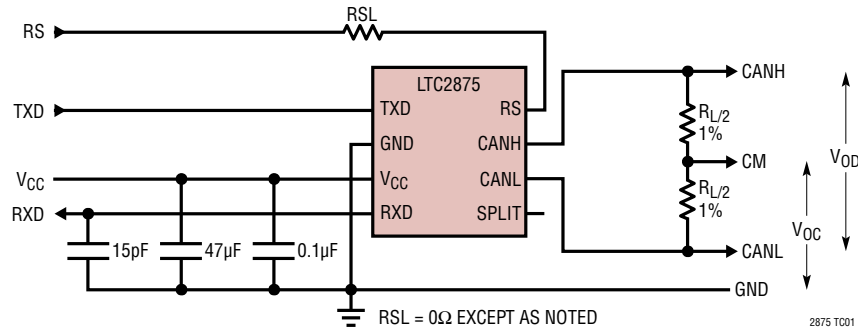

Figure 1. All Electrical Characteristic Measurements
The ● denotes the specifications which apply over the full operating temperature range, otherwise specifications are at  $T_A = 25^\circ\text{C}$ .  $V_{CC} = 3.3\text{V}$  or  $5\text{V}$ , Figure 1 applies with  $R_L = 60\Omega$ ,  $R_S = 0\text{V}$ , TYP values at  $V_{CC} = 5\text{V}$  unless otherwise noted. (Note 2)
**ELECTRICAL CHARACTERISTICS** The ● denotes the specifications which apply over the full operating temperature range, otherwise specifications are at  $T_A = 25^\circ\text{C}$ .  $V_{CC} = 3.3\text{V}$  or  $5\text{V}$ , Figure 1 applies with  $R_L = 60\Omega$ ,  $R_S = 0\text{V}$ , TYP values at  $V_{CC} = 5\text{V}$  unless otherwise noted. (Note 2)
**SWITCHING CHARACTERISTICS** The ● denotes the specifications which apply over the full operating temperature range, otherwise specifications are at  $T_A = 25^\circ\text{C}$ .  $V_{CC} = 3.3\text{V}$  or  $5\text{V}$ , Figure 1 applies with  $R_L = 60\Omega$ ,  $C_L = 100\text{pF}$ ,  $R_{SL} = 0\Omega$ ,  $R_S = 0\Omega$ , TYP values at  $V_{CC} = 5\text{V}$  unless otherwise noted. (Note 2)
The driver features adjustable slew rate for improved EME performance. The slew rate is set by the amount of current that is sourced by the RS pin when it is pulled below approximately 1.1V. This allows the slew rate to be set by a single slew control resistor RSL in series with the RS pin (Figure 1).